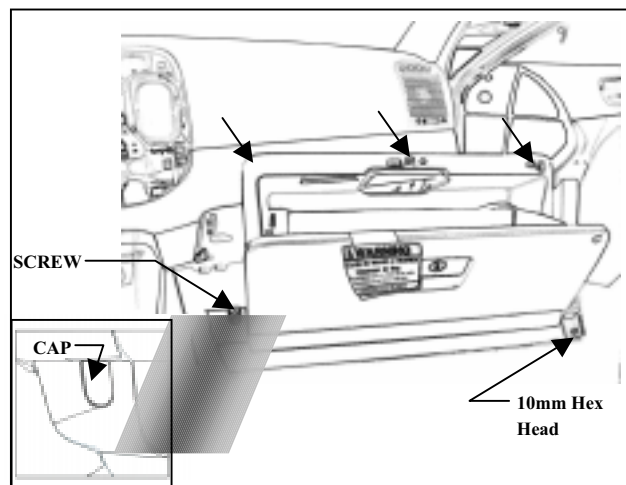

Figure D2
-  i. Remove the 10 mm bolt on lower right side of glove box. (Figure D2).
-  ii. Remove cap on lower left side of glove box using the small tip NRT to reveal Phillips screw and remove. (Figure D2 inset).
-  3. Remove 3 Phillips screws from top of glove box (Figure D2) and remove glove box.